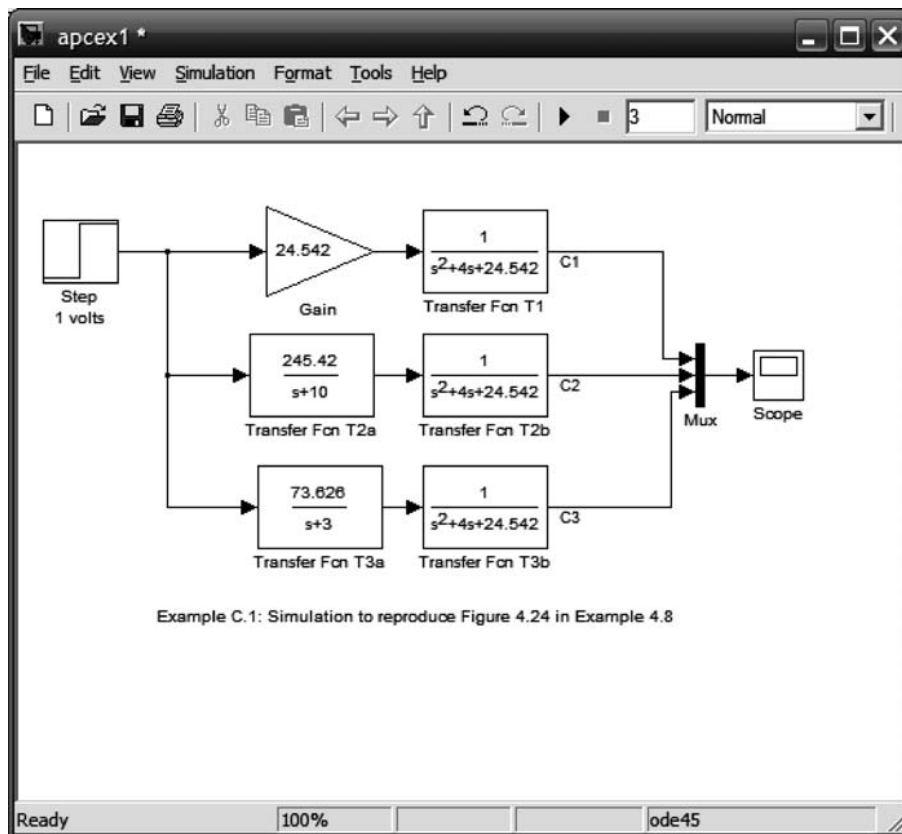

FIGURE C.5 Simulink block diagram for Example C.1
Our first example develops a simulation of three linear systems to compare their step responses. In particular, we solve Example 4.8 and reproduce the responses shown in Figure 4.24. Figure C.5 shows a Simulink block diagram formed by following Steps (1) through (5) in Section C.2 as follows:
The labels for the blocks can be changed to those shown in Figure C.5 by following Step (3) in Section C.2.